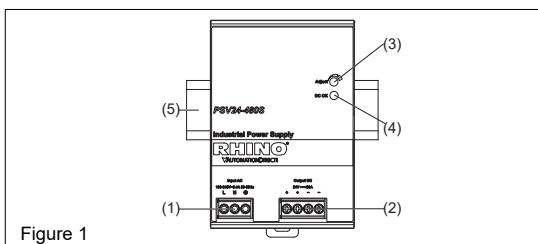
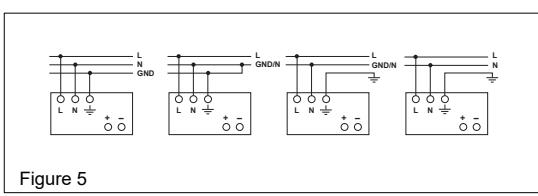

Figure 1
Figure 5
5.1. Input connection (Fig. 1, Fig. 5)
Use L, N and GND connections of input terminal connector (see Fig. 1 (1)) to establish the 100-240 VAC connection. Typical connection methods are shown in Figure 5.
5.2. Output connection (Fig. 1 (2))
Use the “+” and “-” screw connections to establish the 24VDC connection. The output provides 24VDC. The output voltage can be adjusted from 22 to 28 VDC on the potentiometer. The green LED DC OK displays correct function of the output (Fig. 1 (4)). The device has a short circuit and overload protection and an overvoltage protection limited to 28.8-35.2 VDC.